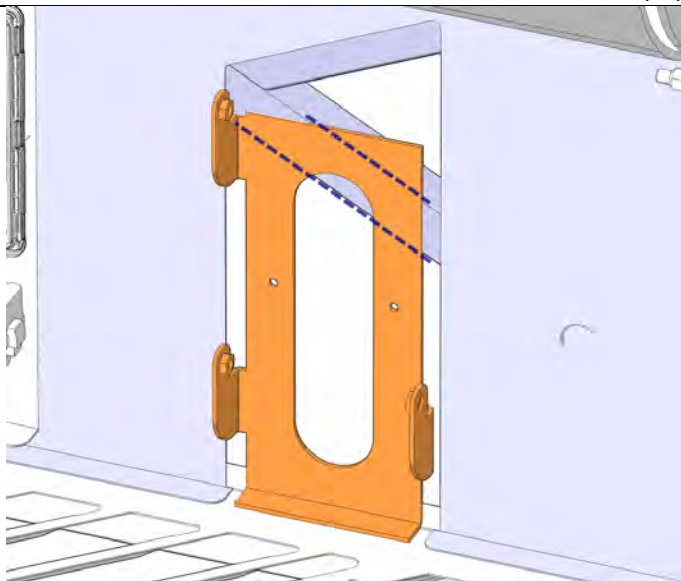

Figure 12: Removing the existing bracket
24. Drill a 1/8" diameter relief hole. (Figure 12)